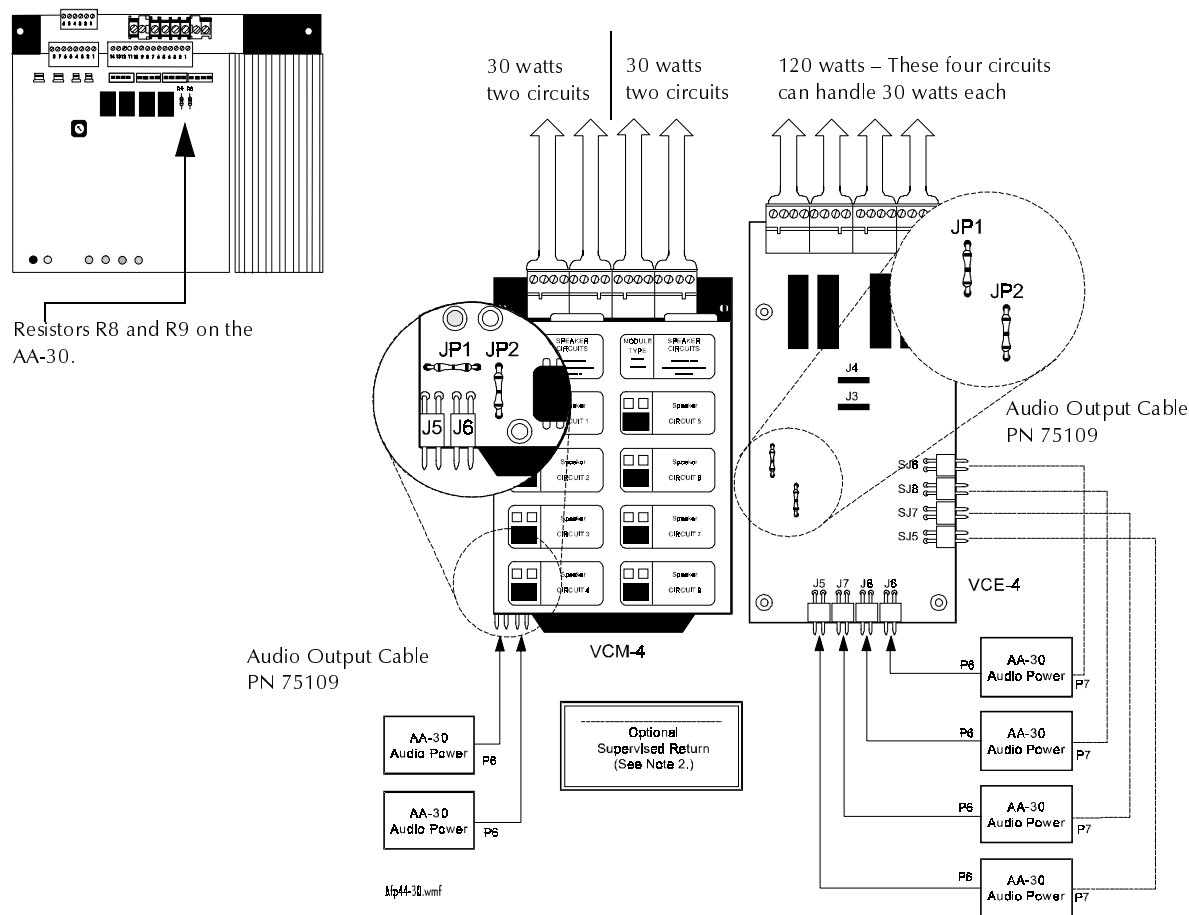

Figure 4-37 Typical 180-Watt, Eight-Speaker Circuit
180 Watt/Eight Speaker Circuit	Figure 4-37 on page 4-31
2. If using an optional supervised four-wire return, cut resistors R8 and R9 (for the location of R8 and R9, see Figure 4-37).